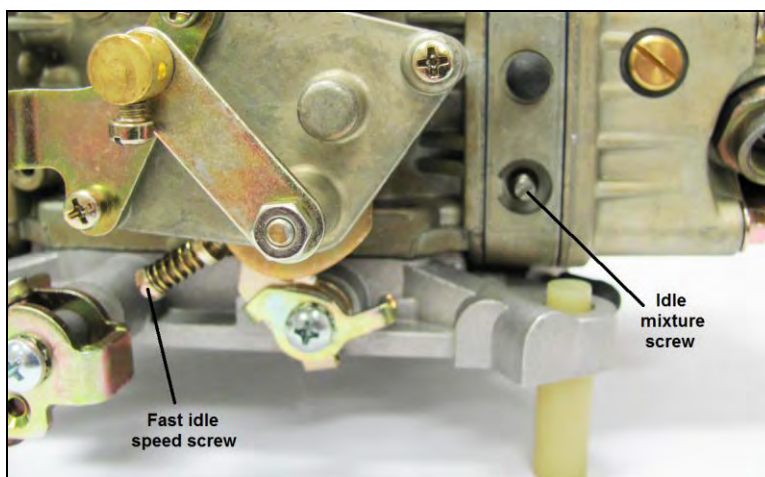

Figure 6
- 3. **Choke:** If the fast idle speed provided during the choke operation needs adjustment, turn the engine off. Close the choke exposing the fast idle adjusting screw. Use a small open end wrench for ease of adjustment. See Figure 6.